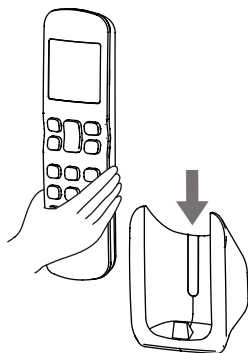

Figure 2.5
3) Slide the remote controller vertically down into the remote controller bracket (see Figure 2.5).